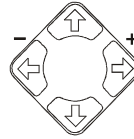

Figure 29: Navigation Control Keys
- Using the navigation control keys on the infra-red remote control transmitter (see Figure 16), to fine tune the zoom position (that is, to slowly zoom-in at any location on the screen)², as Figure 29 illustrates